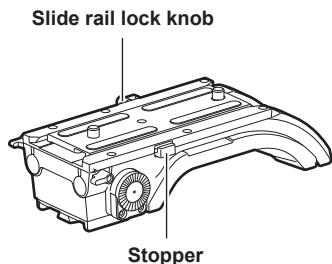

Fig. 1
- 2 Remove the slide rail from the shoulder mount module while pressing the stopper. (Fig. 1)